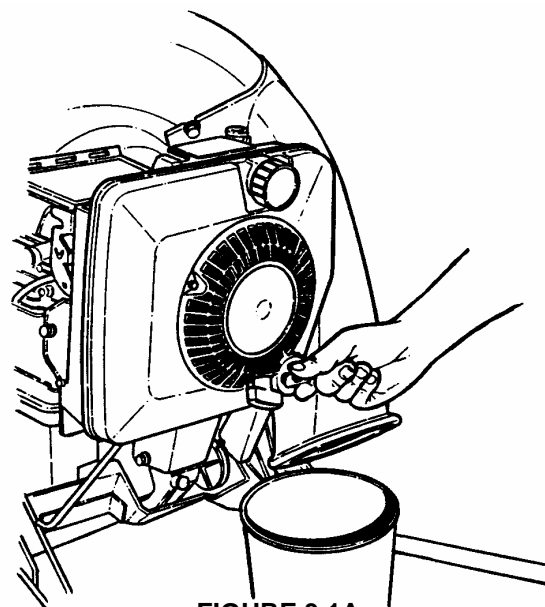

FIGURE 3.1A
2. For simplest/cleanest oil change, loosen lower handle nuts. Remove two of the four bolts and fold handles. Stand mower up on lower handle brackets as shown in Figure 3.1A. Drain oil through dipstick tube into a container. Allow sufficient time for all oil to drain.